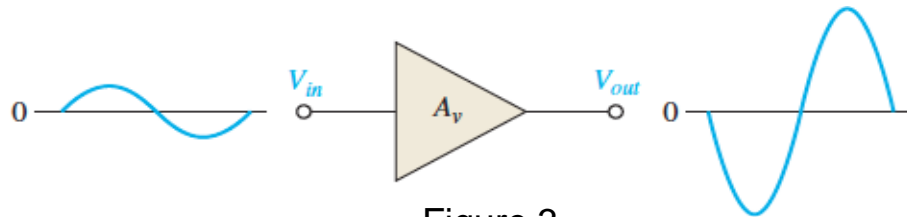

Figure 3
- Both **large-signal** and **small-signal amplifiers** are considered to be **class A** if they operate in the **linear region at all times**, as illustrated in Figure 3.